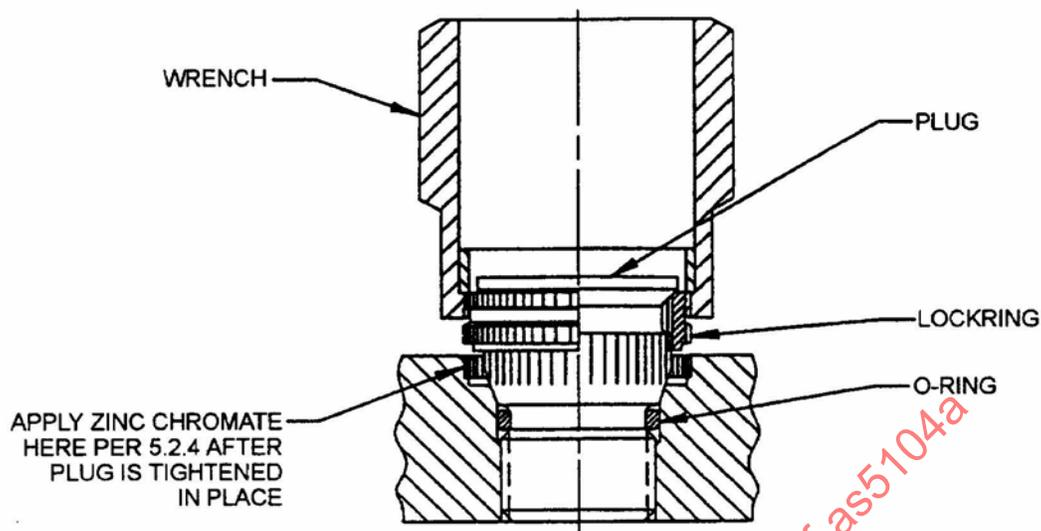

FIGURE 3 - Torquing Plug Assembly
- 5.2.3 Using the applicable wrench, engage the serrations of the tool with the external serrations of the locking per Figure 3.